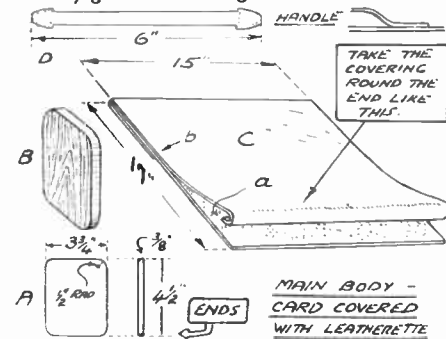

Fig. 2—Detail of parts needed
To make, first required are the two ends as (A), Fig. 2. Cut from any pieces of nice wood,  $\frac{3}{4}$ in. thick, they are  $4\frac{1}{2}$ ins. by  $3\frac{3}{4}$ ins. and have the corners rounded to a curve of  $\frac{1}{2}$ in. radius. The marking out of the corners is done by feeding a halfpenny up to them and drawing round it—a halfpenny being just 1in. in diameter. The detail at (B) shows one of the finished ends.
pletely drying out—which will not take long—cut the simple handle (D) Fig. 2. This is a strip of leather, 6ins. long and  $\frac{1}{2}$ in. wide in the middle, but widening out to two rough arrow-head or heart shapes at the ends so it can be easily stitched on. A length of old strap slightly wider than  $\frac{1}{2}$ in. and trimmed down in the centre will do well for this.